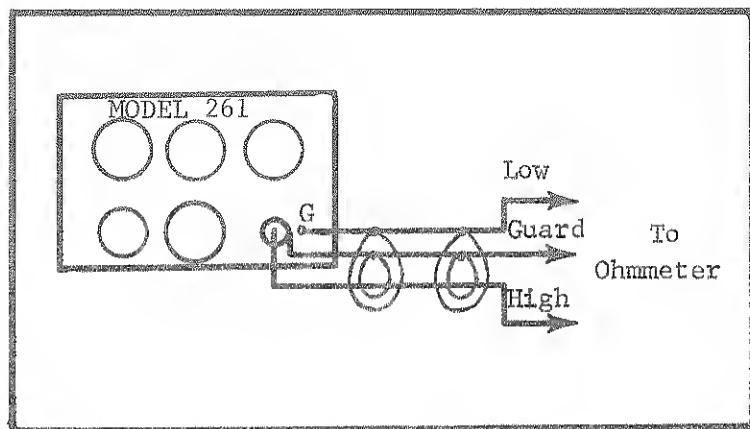

FIGURE 8. Guarded Circuit for Ohmmeter Calibration. This circuit is recommended for resistances of 10^9 ohms and more.
2. Carefully shield connections above 10^8 ohms. Use guarded connections for resistances 10^9 ohms and more. See Figure 8. A guarded connection to the range resistor will eliminate the shunting effect of cable and connector resistance. For example, using the 10^{10} ohm range, a 10^{12} ohm leakage resistance will add an error of 1%. To make the connection, set the CAL-OPERATE Switch (S101, Figure 10) to CAL. Remove the link between the GND and COM Terminals of the Source. The outer shell of the OUTPUT Receptacle is the guard and the G Binding Post beside it is connected to the low side of the range resistor.